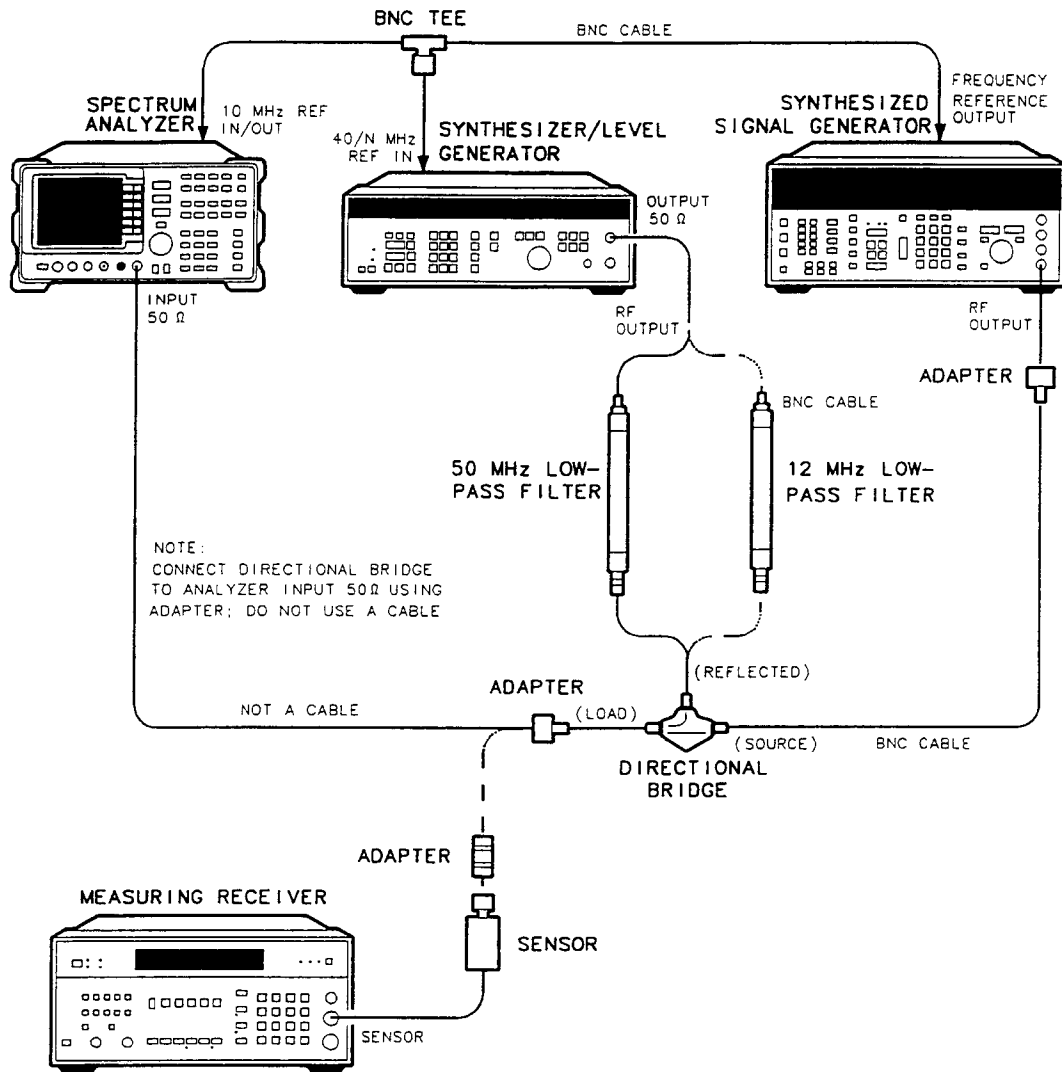

Figure 3-21. Third Order Intermodulation Test Setup (50 Hz to 2.9 GHz)
1. Connect the equipment as shown in Figure 3-21 using the 50 MHz low pass filter, but do not connect the directional bridge to the spectrum analyzer.